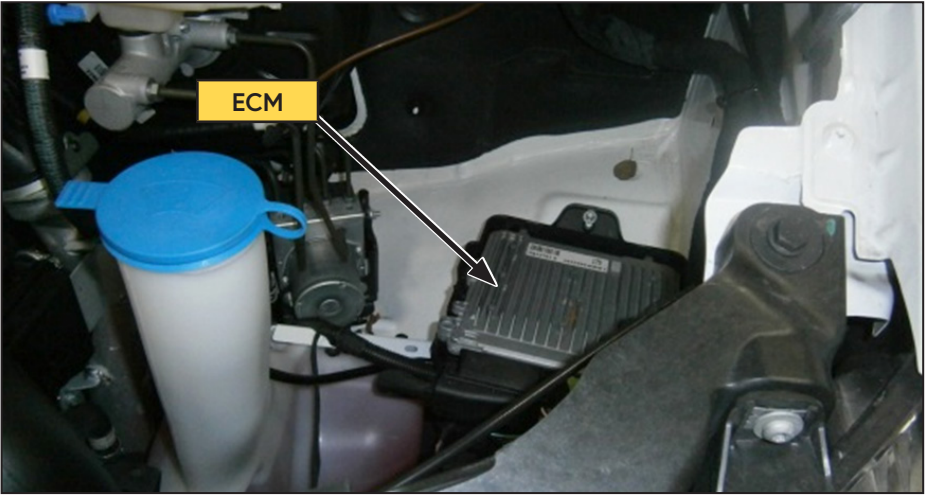

Figure 64 — ECM location
- Route the white 16 AWG wire from the Throttle Control to the Engine Control Module (ECM) located on the driver side in the engine bay (Figure 64).